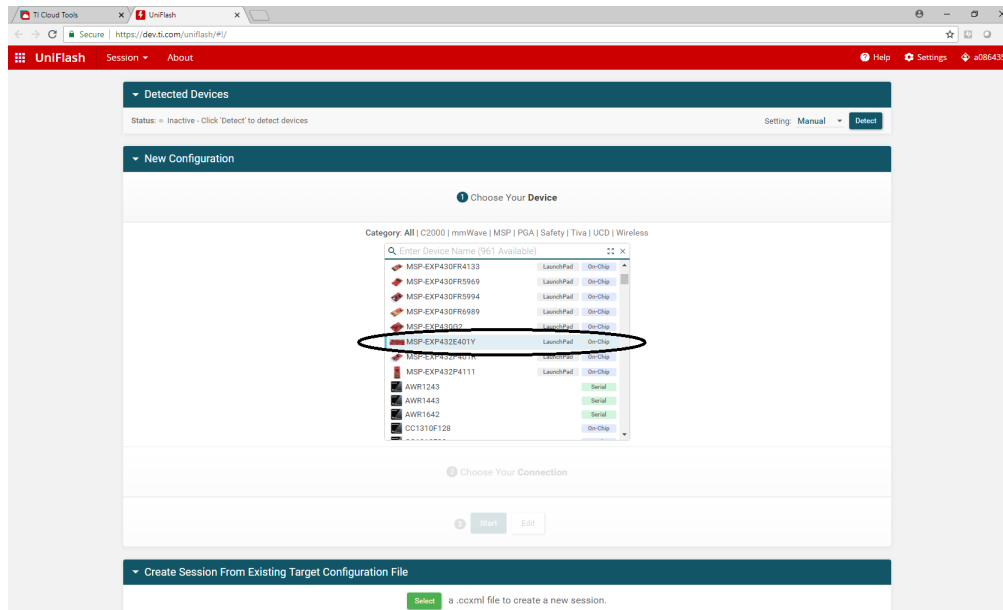

Figure 7. UniFlash: New Configuration
Start the UniFlash program and begin a *New Configuration* (Figure 7) and select the LaunchPad™ MSP-EXP432E401Y.
1. In the UniFlash program start a *New Configuration* by selecting the MSP-EXP432E401Y LaunchPad™ from the drop down list as shown in Figure 7.